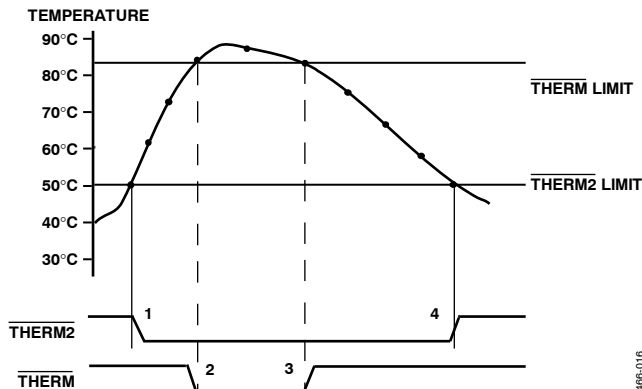

Figure 21. Operation of the THERM and THERM2 Interrupts
Figure 21 shows how THERM and THERM2 might operate together to implement two methods of cooling the system. In this example, the THERM2 limits are set lower than the THERM limits. The THERM2 output could be used to turn on a fan. If the temperature continues to rise and exceeds the THERM limits, the THERM output could provide additional cooling by throttling the CPU.
- The THERM output de-asserts (goes high) when the temperature falls to THERM limit minus hysteresis. In Figure 21, there is no hysteresis value shown.